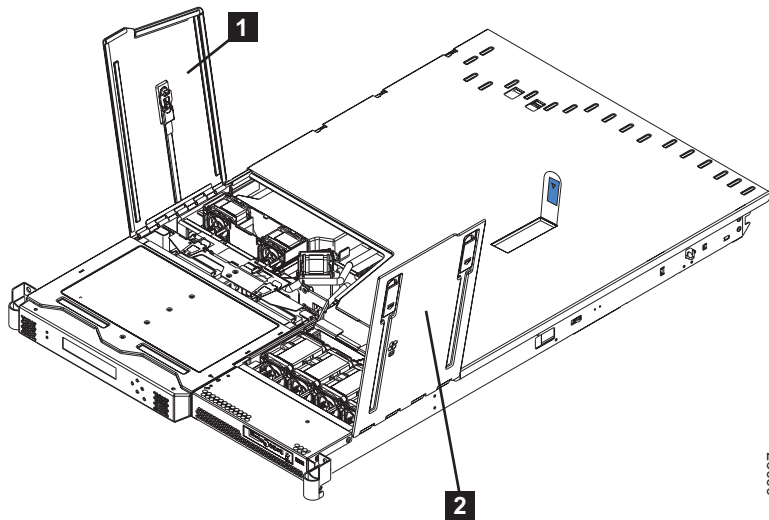

Figure 80. SAN Volume Controller 2145-8F2 or SAN Volume Controller 2145-8F4 with fan doors open
2. Open fan door A (1 in Figure 80 on page 93) of the node.